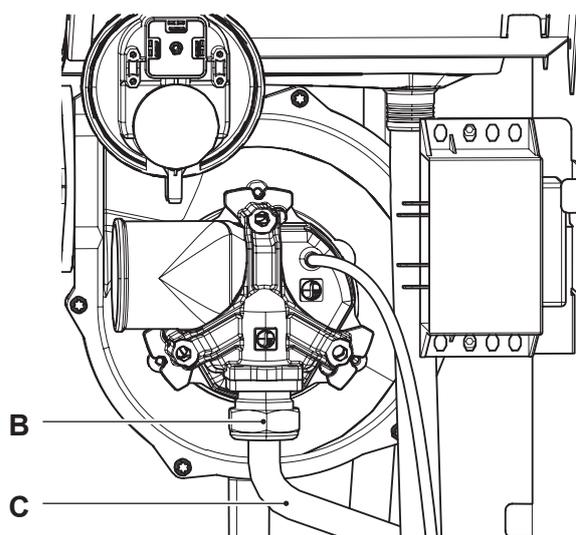

Figure 16.2
- Unscrew the connector B and remove the gas pipe C (Figure 16.2).